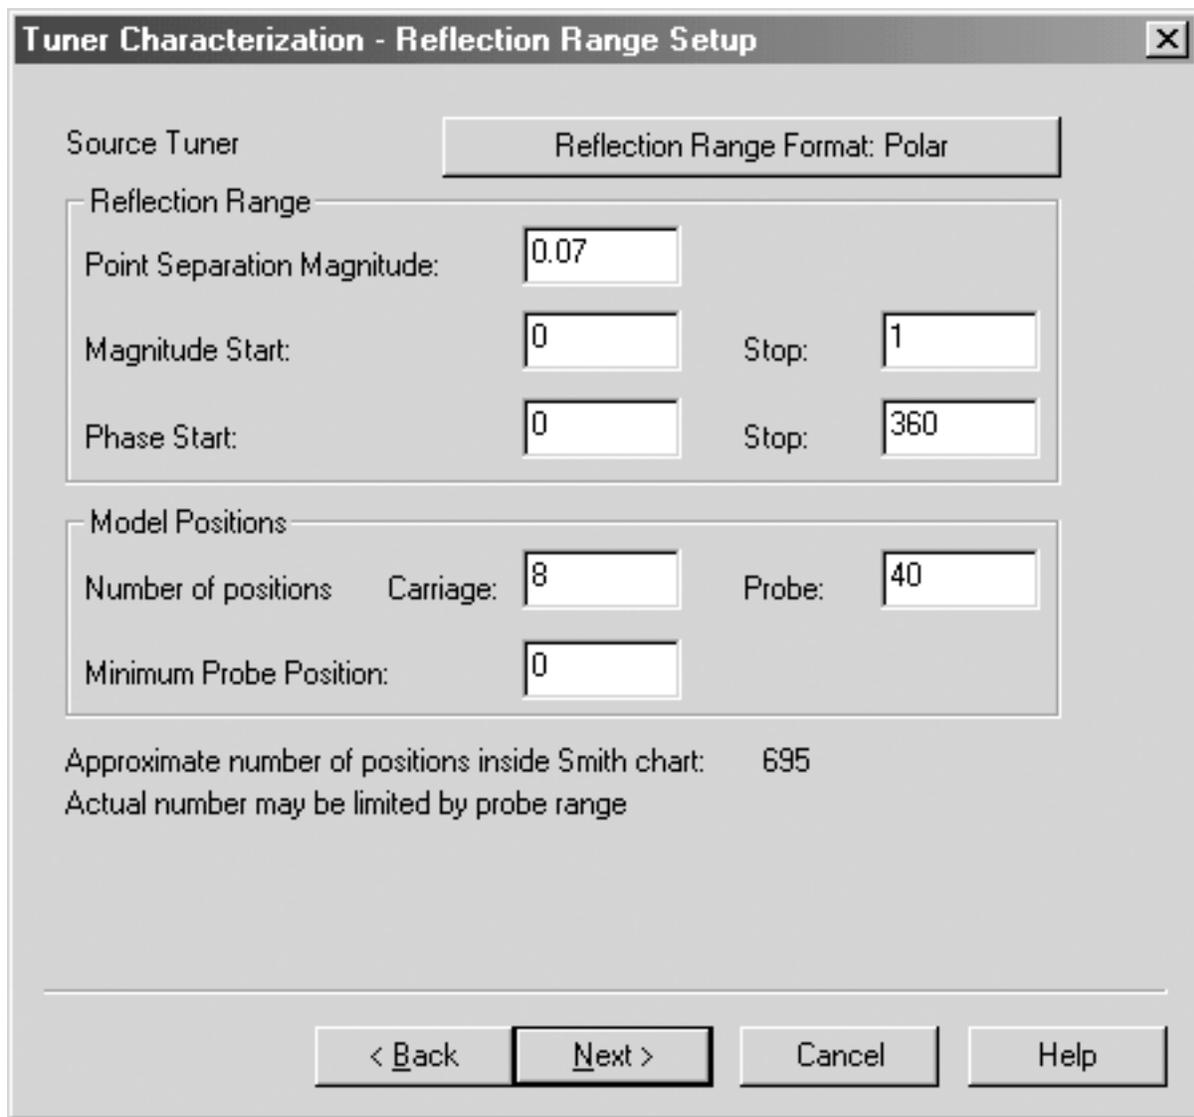

Figure 5-2. Tuner Step Reflection Range Setup Editor
- d. The next step is to edit the range of reflection coefficients, if desired. The default range (see Figure 5-2) will provide nominal reflection coefficient coverage of the entire Smith chart.